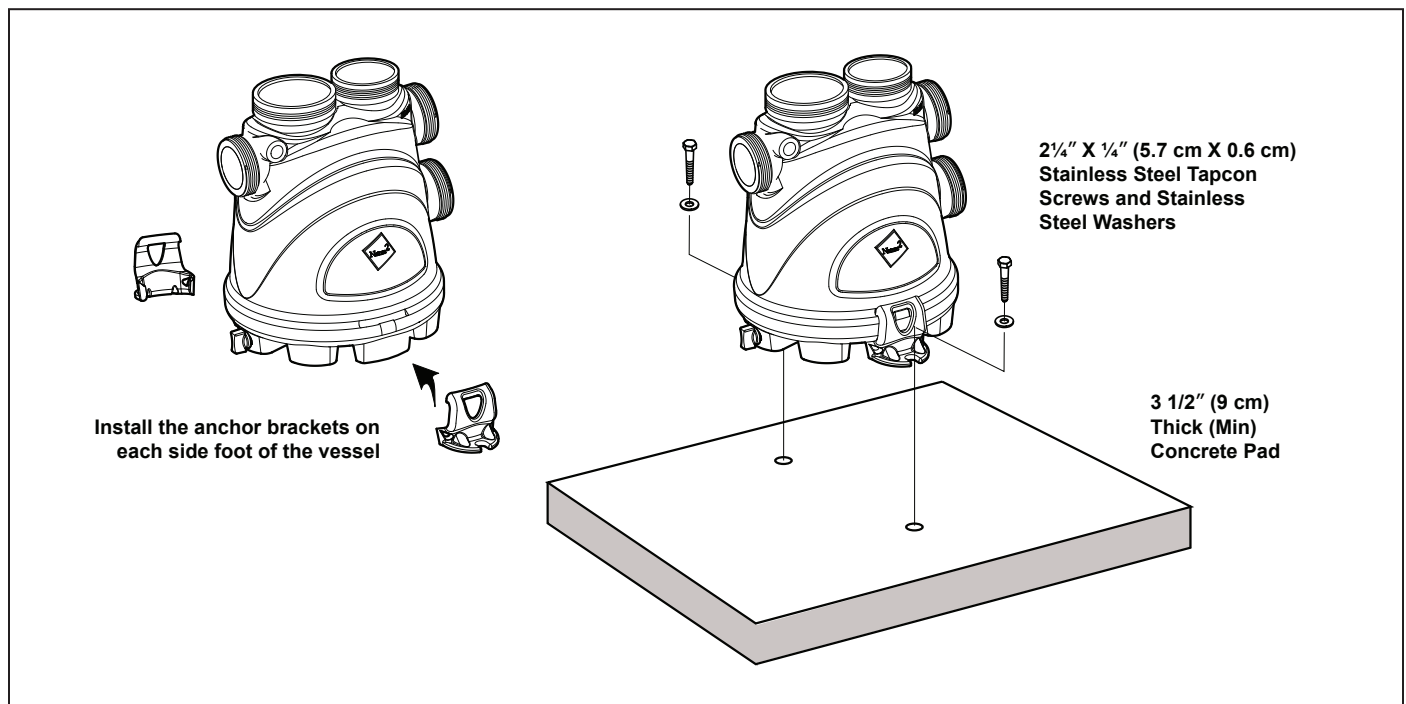

Figure 2. Anchor Bracket Installation
**NOTE** Anchor screws and washers for securing the filter to the equipment pad are not included with the filter. Zodiac Pool Systems, Inc. ("Zodiac") recommends that a 2¼" X ¼" (5.7 cm X 0.6 cm) long stainless steel Tapcon® concrete screw and stainless steel flat washer are used to mount each of the two (2) anchor holes in the base to the equipment pad. The Tapcon concrete screw meets Florida building code requirements.
1. Manually snap on the two (2) clip-type anchor brackets onto the side feet of the vessel as shown in Figure 2. Make sure these anchor brackets are attached firmly to the feet of the vessel.
3. Drill a 5/32" (0.5 cm) hole in the concrete at each of the two (2) holes of the anchor brackets. The correct size concrete drill bit should be obtained when the concrete screws are purchased.
4. Install the Tapcon screws and washers through each of the two (2) holes to secure the vessel to the equipment pad. Do not over-torque the screws.